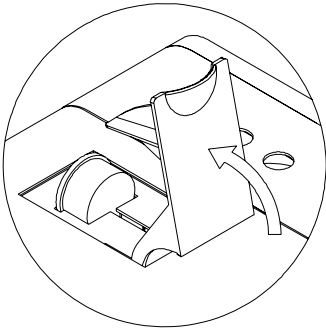
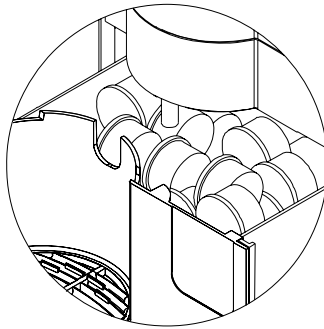

fig.1
fig.2
- Place the cup under the coffee dispensing spout (H).
- Open the flap (F) located on top of the machine and fit a pod into the relative guide (fig.1).
- Close the flap (F) gently pushing it shut.
When the flap (F) is closed it pushes down the new pod, which in turn expels the previous one making it fall into the drip / pod tray (L) (fig.2).
- To dispense: press the coffee button (E) to start and when the desired quantity has been reached press it again to stop.
- **The pod is placed correctly inside the machine solely by the fin fitted on the flap (F), NEVER use fingers to position the pod.**
- **NEVER open the flap (F) while the beverage is being dispensed.**
- **The machine is ready to dispense coffee or hot water after the green light (C) has gone out.**